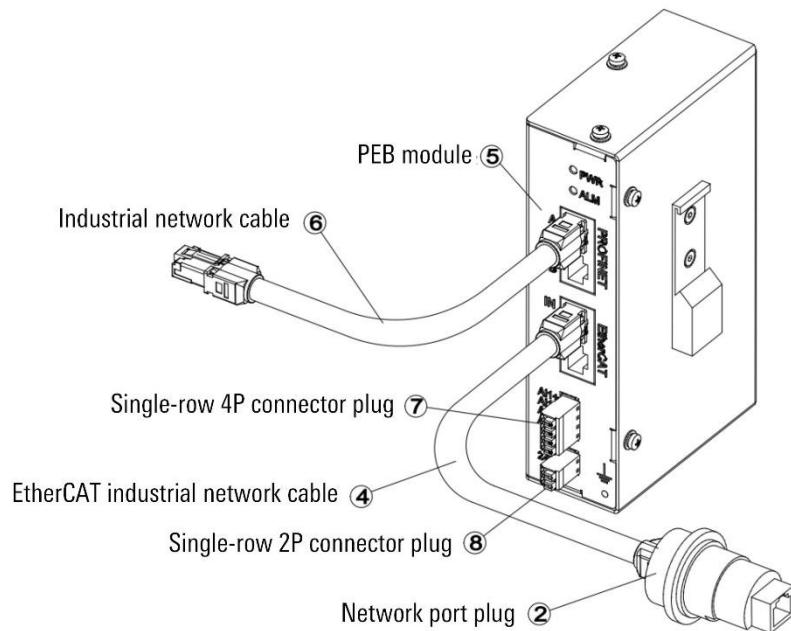

Figure 15-13 Diagram of the interface connecting to the PEB module
Step4. Connect one end of the EtherCat industrial network cable to the network port plug of the cabinet and the other end to the EtherCAT/IN interface of the PEB module; Connect one end of the industrial network cable to the PROFINET/A interface of the PEB module, and the other end to the user's own PLC module, refer to Figure 15-13.